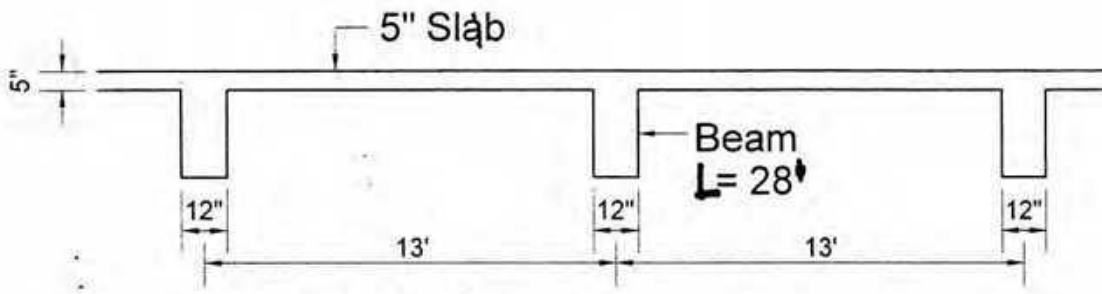

Fig. 5 (Q. No.11)
11. A slab with beams is shown in Fig. 5. The beams are simply supported with a span of 28 ft. The slab is subjected to loads as following